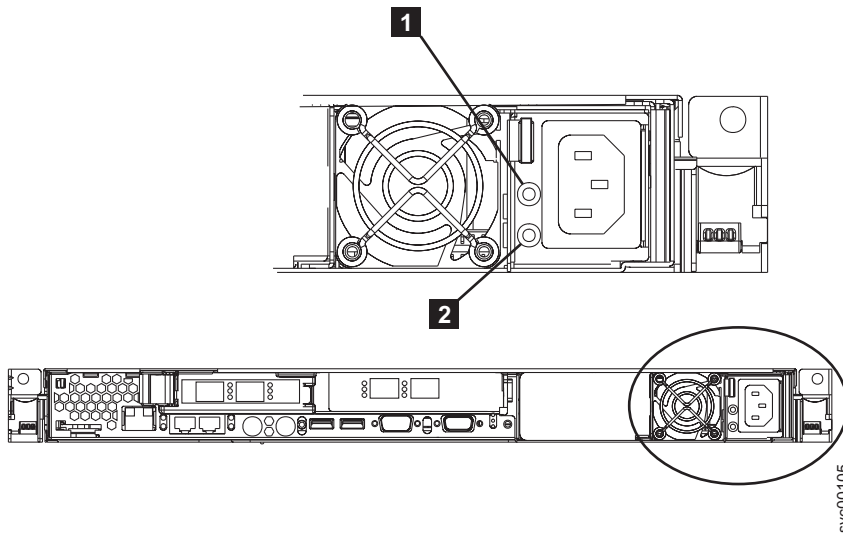

Figure 161. SAN Volume Controller 2145-8F2 or SAN Volume Controller 2145-8F4 ac and dc power LEDs
5. Make sure that the power-supply fan starts and the ac power LED **1** and dc power LED **2** (shown in Figure 161 on page 178) on the power supply are lit, indicating that the power supply is operating correctly.